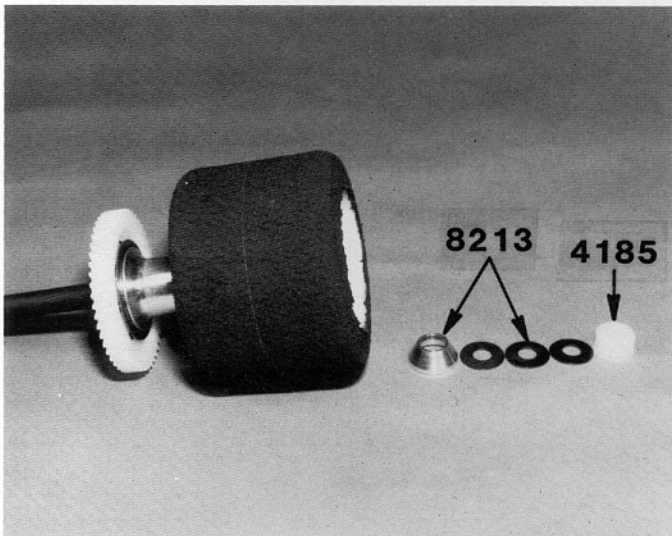

Fig. 66
□ **Figs. 66 & 67**—Slip the wheel on the axle. Now slip the tapered aluminum spacer on next, so that the smallest tapered end goes on first. Now slip the three tapered Belleville washers on next, so that the taper is pointing to the outside. Screw the nylon nut on and tighten by hand. Hold the axle in your left hand. Turn the wheel with your right hand. It should turn freely. If it doesn't, the drive rings are misaligned. We'll adjust the diff later.